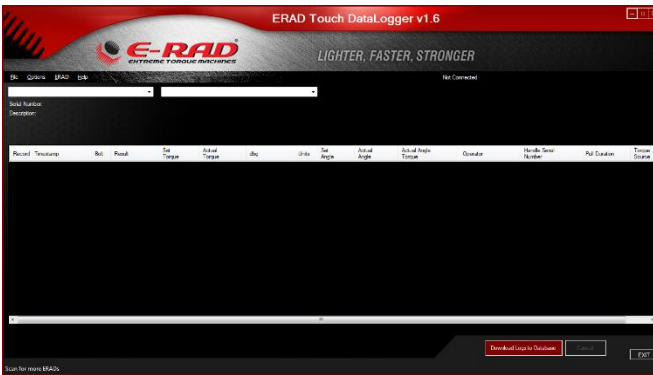

Figure 8.2-3: DataLogger Main Screen
3. Open the E-RAD Touch DataLogger Software (Figure 8.2-3).